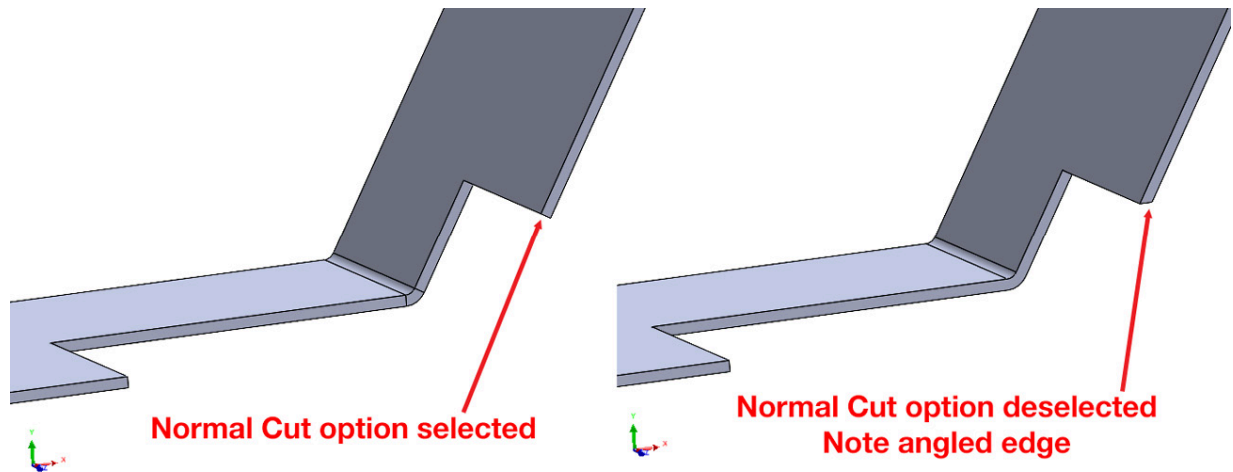

Figure 3.7: Differences between the Normal cut and non-Normal cut options
5. Press **OK** to create this feature. Note that the angle of the cut is now **Normal** to the face of the **Edge Flange** (Figure 3.7):